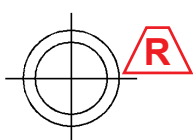

Figure A2
Always isolate from compressed air supply using valve (M) in Figure A and Figure A2.
All reference will be made to “Figure A2 on Page 4, also on Wall template.
Open spray gun package, using the tee connector, position along holding rail to preferred first position for drop coil, fix firmly with i.e. straps supplied (refer to Figure A2). Using PVC tube (2.7 meters) in package push into tee fitting, then attach to second Tee to determine next drop coil, complete all three guns.
Please ensure you place the end plug in last tee as per option 2 in Figure A2.